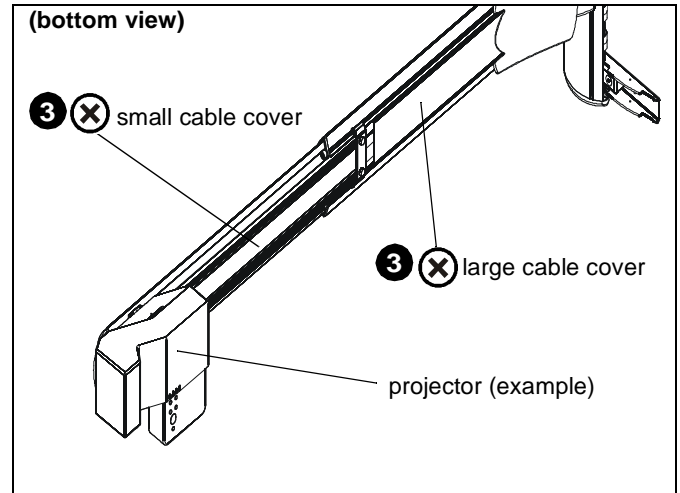

Figure 21
3. Remove cable management covers (if necessary) from short throw projector arm. (See Figure 21)